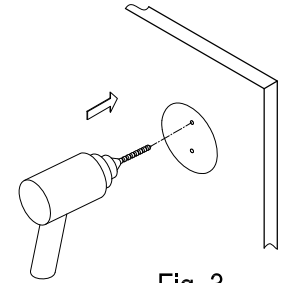

Fig. 3
Step 2. Place the mounting plate in the center of the pencil outline you just made and mark the location of the mounting screws (fig 2). Drill holes at the marked locations (fig 3).